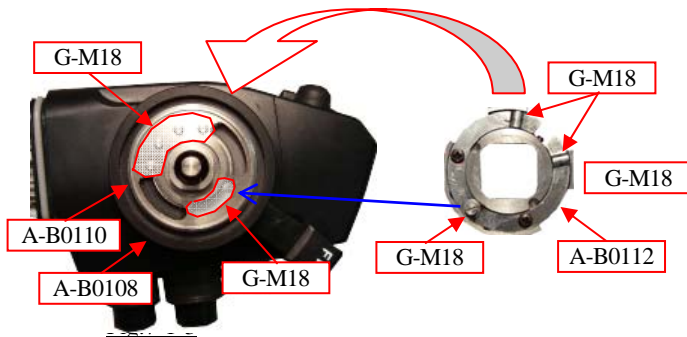

Fig.7-1-3
- 5) Apply grease (G-M18/RM3116) to the pins and groove of the UD Lock Rotating Disk (A-B0110) and place A-B0110 to B0071. (Fig.7-1-3)